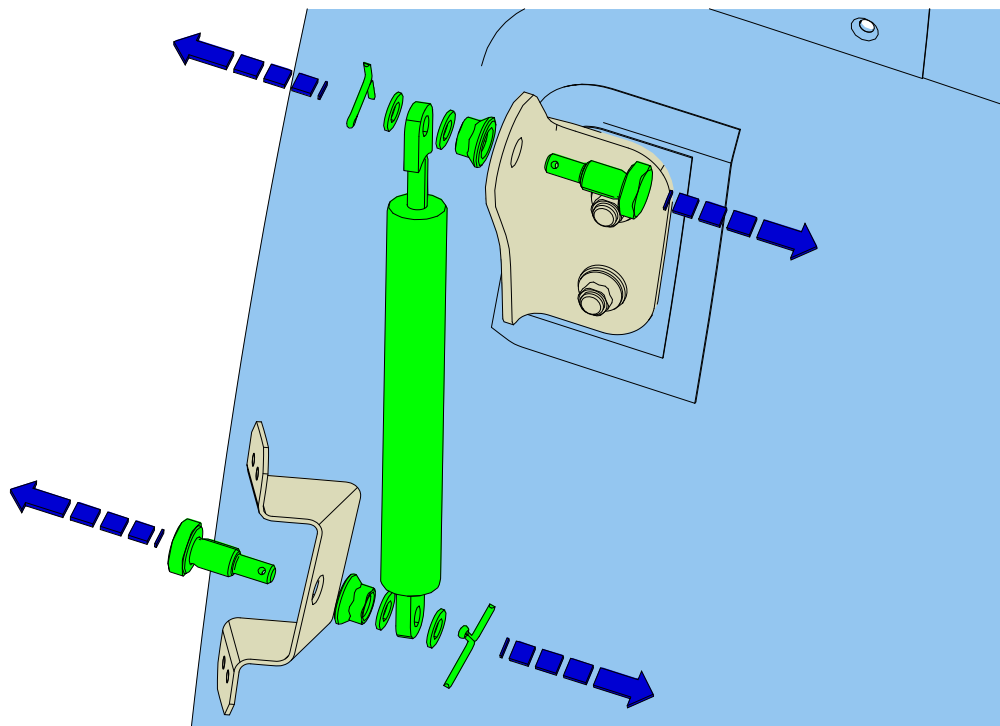

Figure 1
4.1.1. Remove and discard pins, self-locking nuts and flat washers from the compensator rod on both sides according to (Figure 1).
4.1.2. Remove the compensator rod according to (Figure 1).